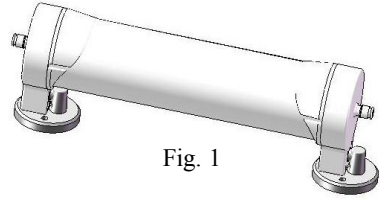

Fig. 1
- Remove a DSU from its package and put an Alsons wall mount pin in each mounting hole of the filter. (see Fig. 1)